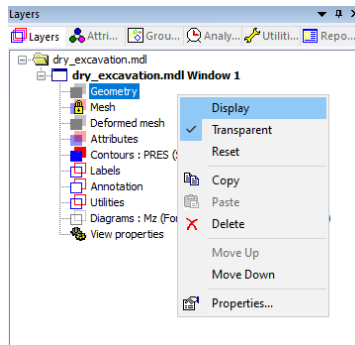

Figure 68: Hiding Geometry layer
- In the Layers treeview, right-click on **Geometry** and untick **Display** (figure 68).